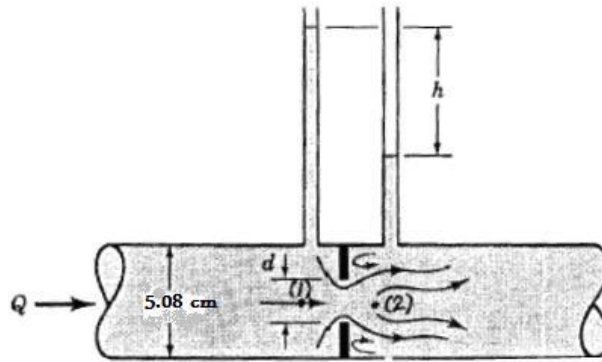

Figure 5
- 6- Water flows through the orifice meter shown in figure 5 at a rate of $0.0028 \text{ m}^3/\text{s}$.